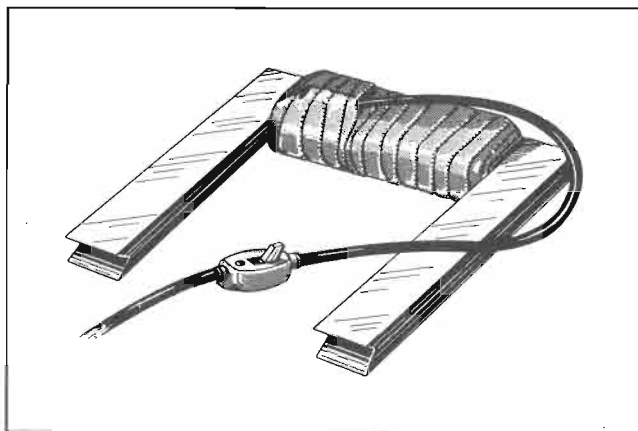

Figure 177 — Choke Coil
(d) To demagnetize members in which strong fields are found, it is necessary to use a choke coil similar to that shown in figure 177 in series with a variable resistance of 100 ohms. To construct such a coil, refer to paragraph (9).